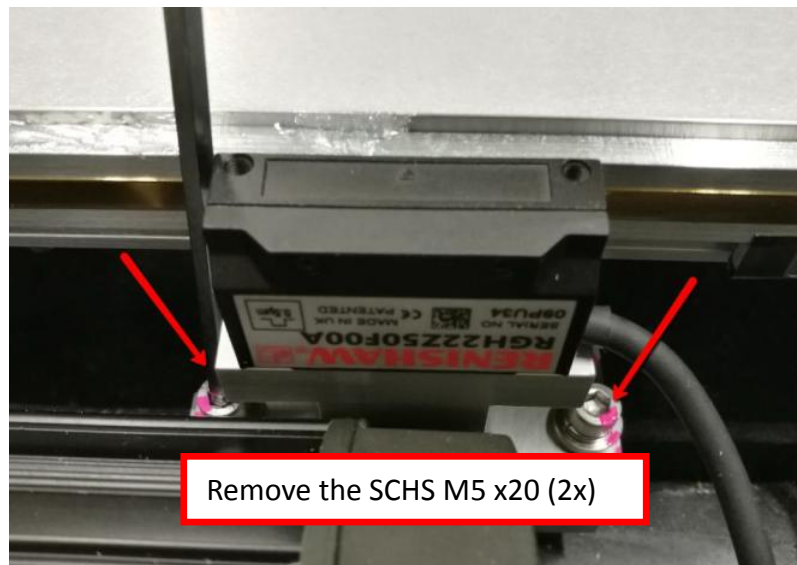

Figure 3 Y-Axis Encoder
4. Gently remove Y-Axis encoder as shown in Figure 3 and allocate at visible position.